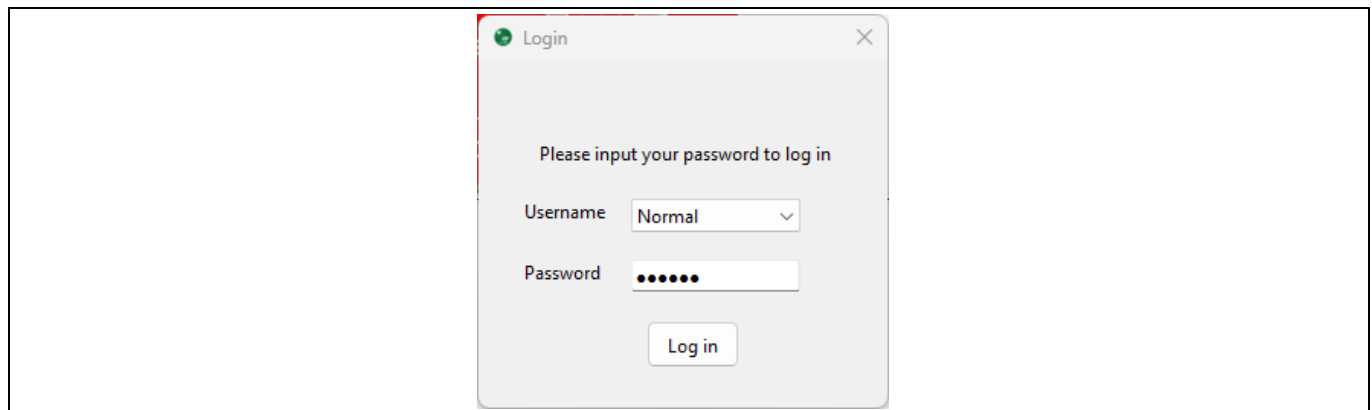

Figure 43 Login window for HERIC Debugger GUI
4. Launch the HERIC Debugger GUI on PC. A login window will appear (Figure 43). Select **Normal** and key in 123456 as the password